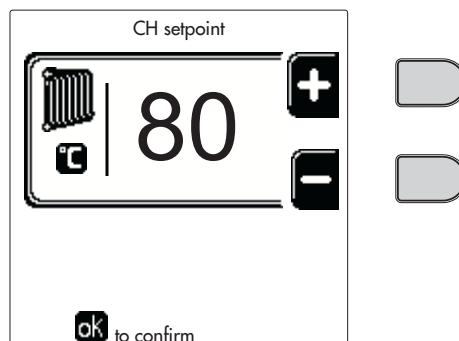
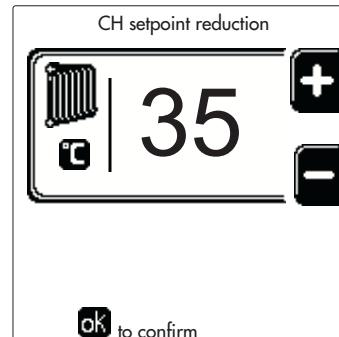
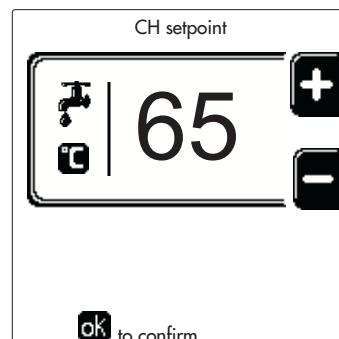
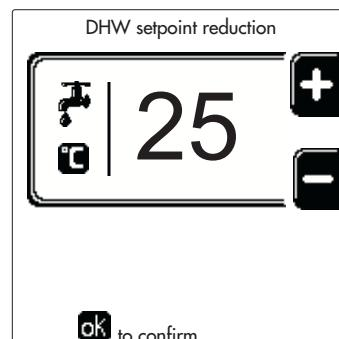

fig. 13
fig. 14
fig. 15
fig. 16
- **ON.** In case of a Heating/DHW request, the boiler works at the set Heating/DHW Adjustment Temperature (fig. 13/fig. 15).
- **■.** In case of a Heating/DHW request, the boiler works at the Reduced Adjustment Temperature. The Reduced temperature is obtained by subtracting the Reduction Adjustment Temperature (fig. 14/fig. 16) value from the set Heating/DHW Adjustment Temperature (fig. 13/fig. 15).